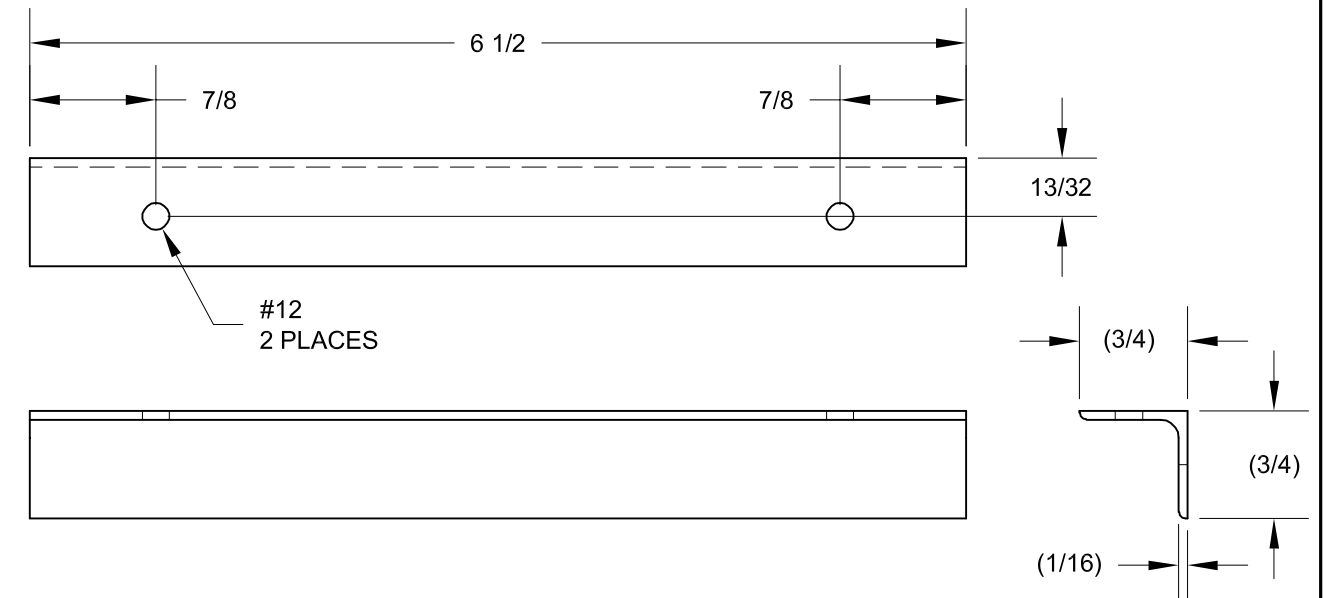

FIGURE 3: F-1011E RUDDER CABLE ANGLE
Step 4: Make the F-1011E Rudder Cable Angle, as shown in Figure 3, from the length of AA6-063 x 3/4 x 3/4 provided in the kit.